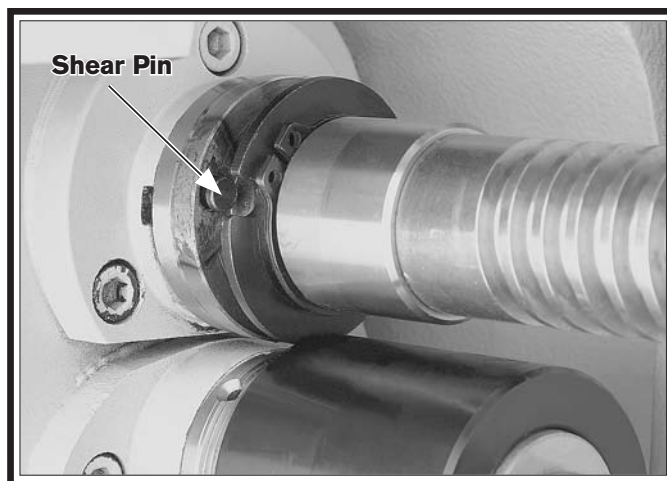

Figure 133. New shear pin installed in bore.
8. Insert the new shear pin into the bore, as shown in **Figure 133**.